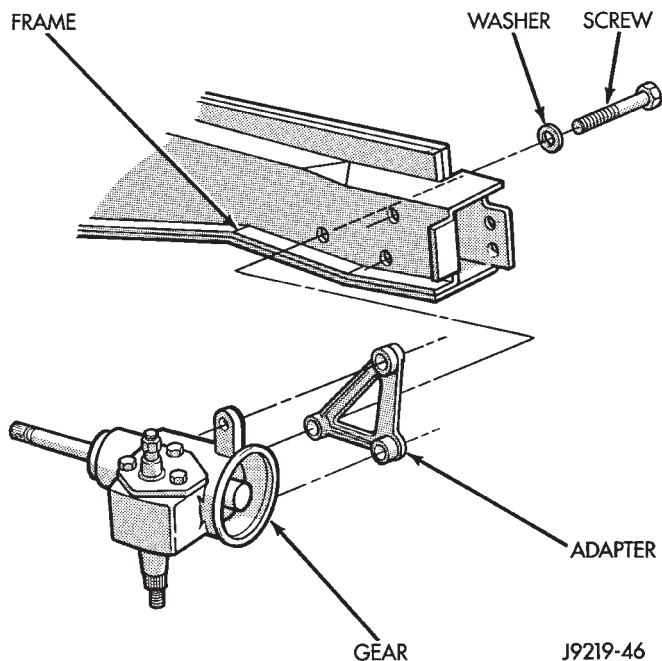

Fig. 17 Steering Gear Mounting—XJ
(4) Remove the steering gear retaining bolts and nuts. Remove the steering gear from the vehicle (Fig. 17, 18).